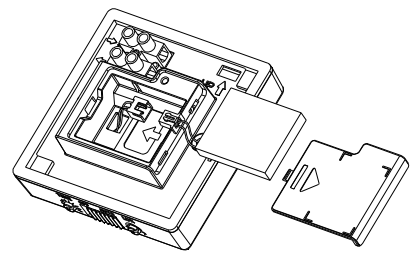

FIGURE 5
- (3) Fit the 3.7V Lithium battery supplied to the battery compartment, ensuring that correct polarity is put. Refit the battery cover. (FIGURE 5)